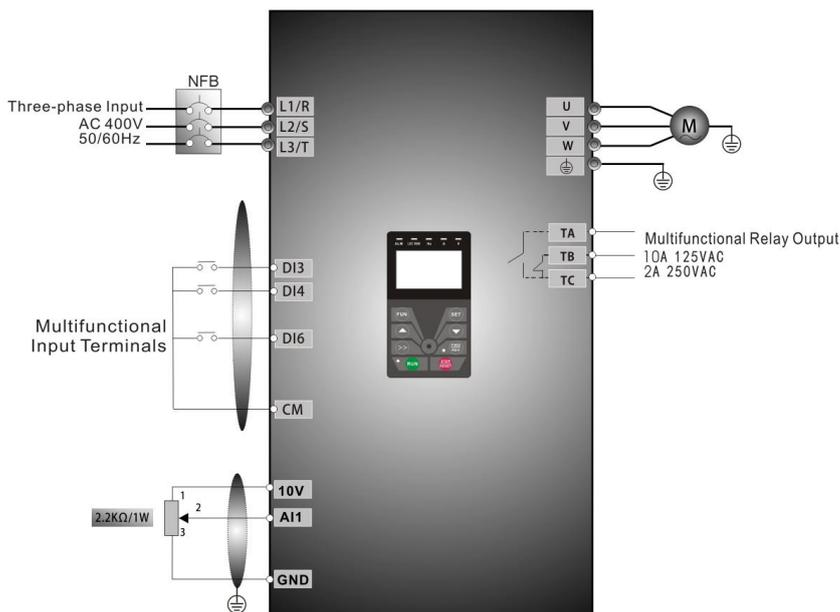

Fig 4-3 Wiring Diagram 3
- (1) Connect the wires in accordance with Figure 4-3. After having checked the wiring successfully, switch on the air switch, and power on the inverter. Note: 2K~5K potentiometer may be adopted for setting external analog signals. For the cases with higher requirements for precision, please adopt precise multturn potentiometer, and adopt shielded wire for the wire connection, with near end of the shielding layer grounded reliably.